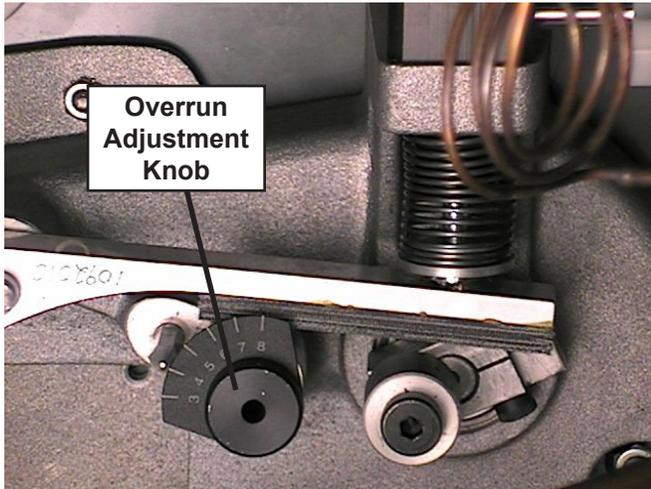

Figure 2-2 Overrun Adjustment
- C. On the air compressor side of the pump, locate the long/slender piston rocking arm. The rocking arm downward travel is limited by a stationary cam. On the face of the cam there is an overrun setting indicator plate numbered 3 through 8 and an adjustment knob (Fig. 2-2).